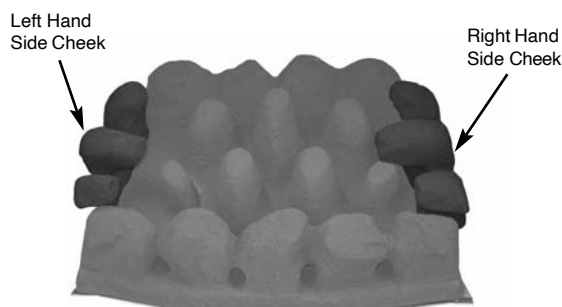

Fig. 20
4. Place the side cheeks into position, making sure they are positioned either side of the fuel bed and the overhang is at the front. The outside edge should be in contact with the radiant box ceramic liner. Ensure that the lower part of the side cheeks sit on the front coal and are in front of the rear coal (Fig. 20).